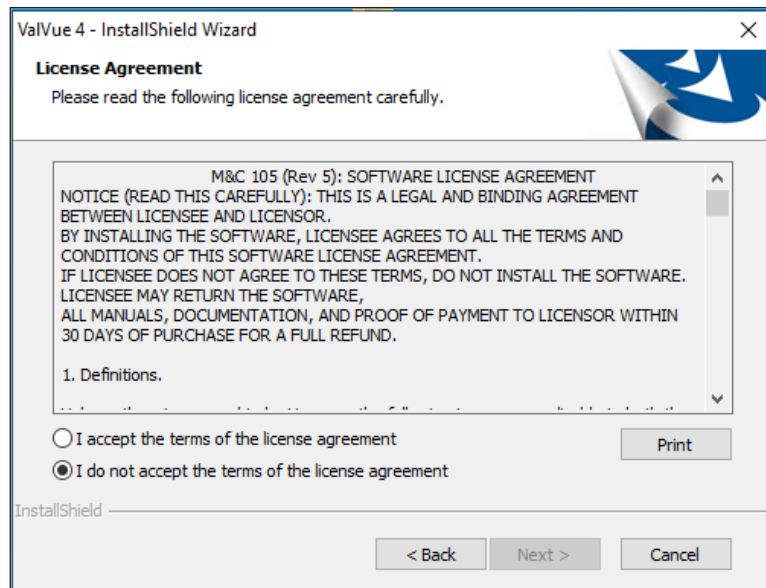

Figure 5 - ValVue License
4. Click **Next** and Figure 5 appears.